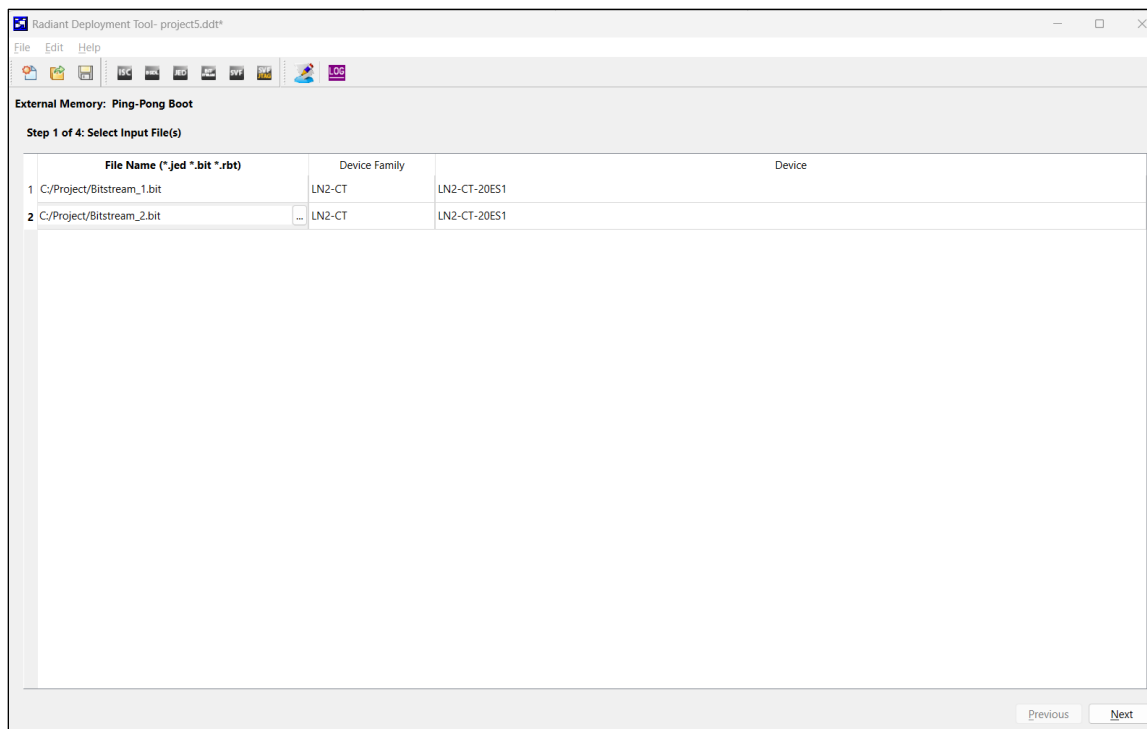

Figure 7.8. Select Input File(s) Window
Step 1 of 4: Select Input File(s) window (Figure 7.8)